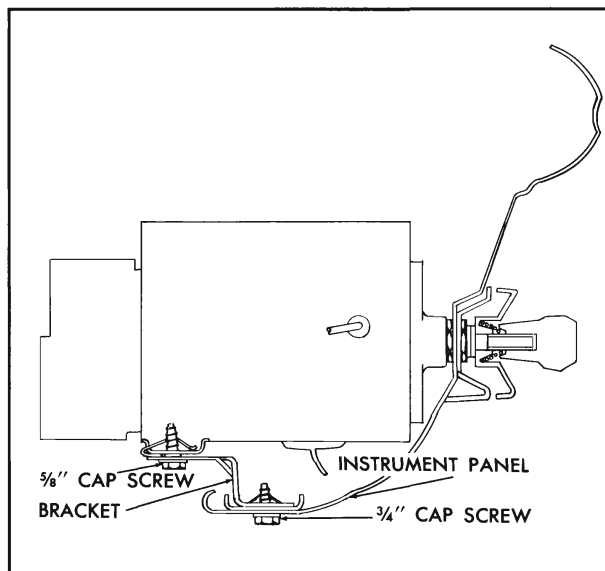

Fig. 12-2 Panel-to-Radio Bracket
4. Remove screw securing radio receiver to instrument panel-to-radio bracket (Fig. 12-2).
3. Install screw holding radio to bracket (Fig. 12-2).